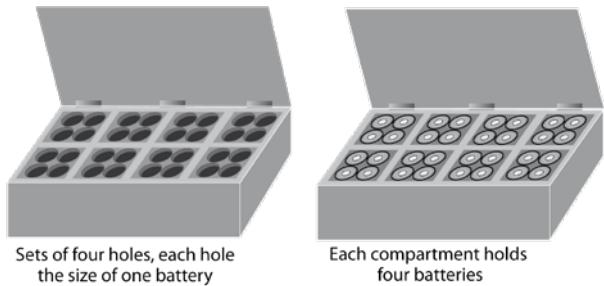

Figure 9 - Examples of Battery Carry Boxes
3. Make up battery carry boxes (with compartments and lids) to hold enough sets of four batteries (refer Figure 9).